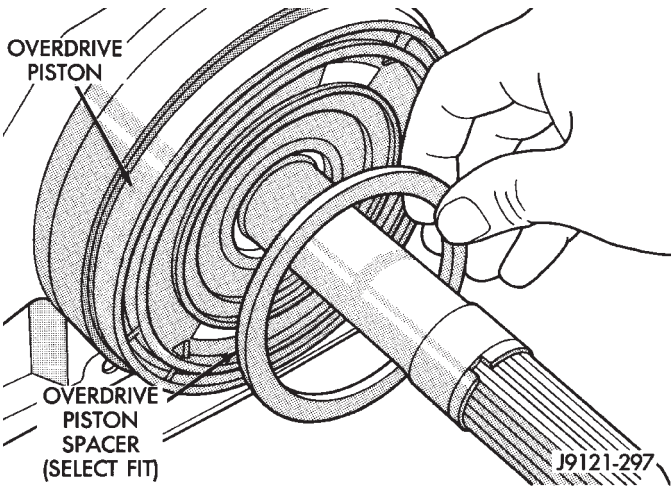

Fig. 5 Overdrive Piston Thrust Plate Removal/ Installation
- (1) Remove overdrive piston thrust plate (Fig. 5). Retain thrust plate. It is a select fit part and may possibly be reused.